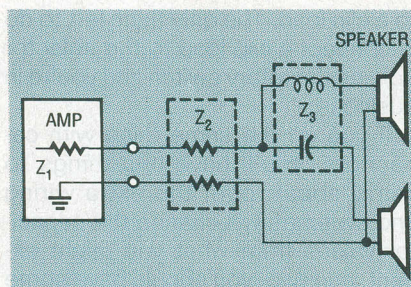

FIG. 1—THE IMPEDANCES FOUND in a typical speaker connection.
Debouncing switches is a simple procedure and there are lots of ways to get it done. All we need is a circuit that produces a clean output pulse whenever it's triggered. The electronics involved are minimal since you can use anything from a handful of ordinary passive components to a 555-based circuit. Since I like to keep things as simple as possible while still providing as much flexibility as I can in the final product, I used a half monostable multivibrator as the foundation of the circuit (see Fig. 1).
**FIG. 1—A HALF MONOSTABLE MULTIVIBRATOR** is the foundation of the switch-debouncer circuit. Six switches can be made from a single chip, but since positive- and negative-going pulses may be needed, two IC's are used to produce six positive-going and six negative-going bounceless switches.
Figure 1 shows the series impedance of a typical speaker hookup. Impedance  $Z_1$  is the output impedance of the amplifier,  $Z_2$  is the resistance in the speaker wire, and  $Z_3$  is the complex impedance of a nominal 8-ohm speaker. The speaker impedance includes the crossover elements plus the impedance of the speaker, which typically varies widely
The monitor can be secured to the copier surface using C clamps, superglue, or even large rubber bands or Bungee cords—the kind you use to strap things to the top of the car with, not the kind you jump off bridges with. The exact method used will depend on the copy machine and how easy the monitor can be secured to it. Figure 1 shows how we did it. Be sure that the cables to the monitor are not laying between the copier's glass surface and the monitor screen, and that they reach to your computer's video output. The monitor should not be glued into place until you have "laser" printed a few pages to check the alignment of the monitor on the copier glass. Once a few pages have been printed, and the monitor's alignment has been established as correct, then the monitor can be secured to the copier.